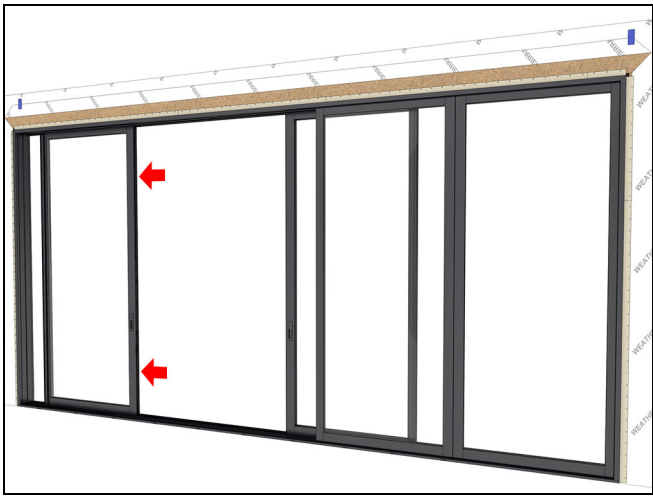

Figure 139
11. Slide the (E) operator panel about 12" from the jamb. See Figure 139.